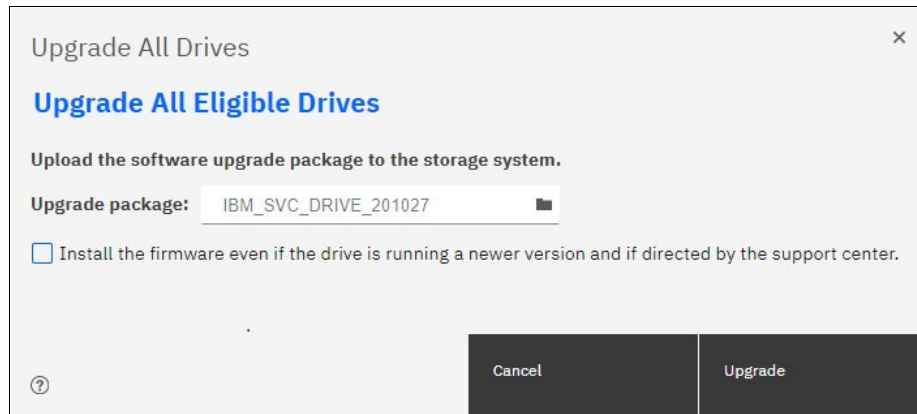

Figure 10-6 Drive firmware upgrade
2. As shown in Figure 10-6, in the Upgrade Package window, browse to the drive firmware package that you downloaded as described in 10.5.2, “Obtaining software packages” on page 415.